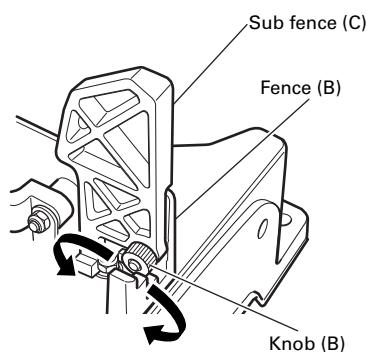

Fig. 14
Loosen knob (B) then remove the sub fence (C) (Fig. 14)
**⚠WARNING:** To attach the sub fence (C), insert then securely tighten knob (B). If knob (B) is loose, the sub fence (C) may move during cutting and result in injury.